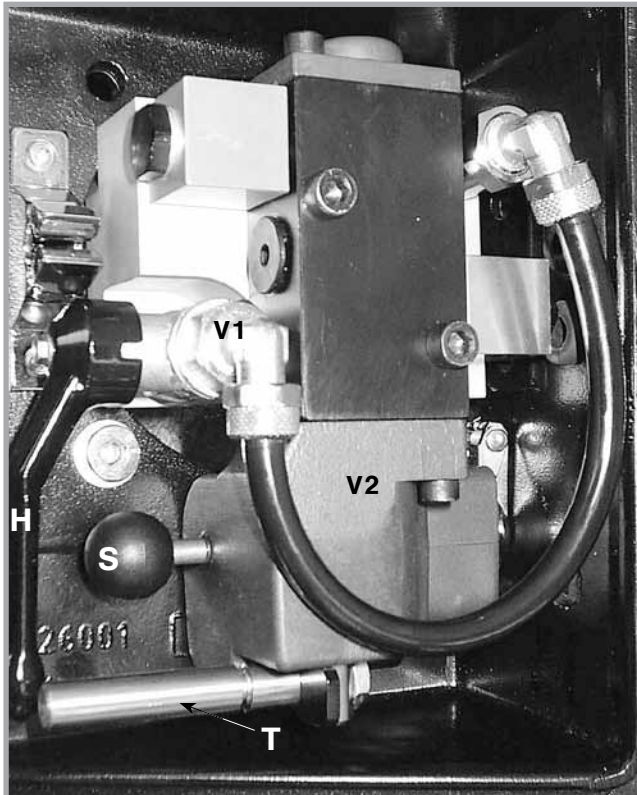

Fig. 5
- After hitching turn the actuating lever **(H)** into starting position (Fig.5) and close the control unit with the lock **(D)**.